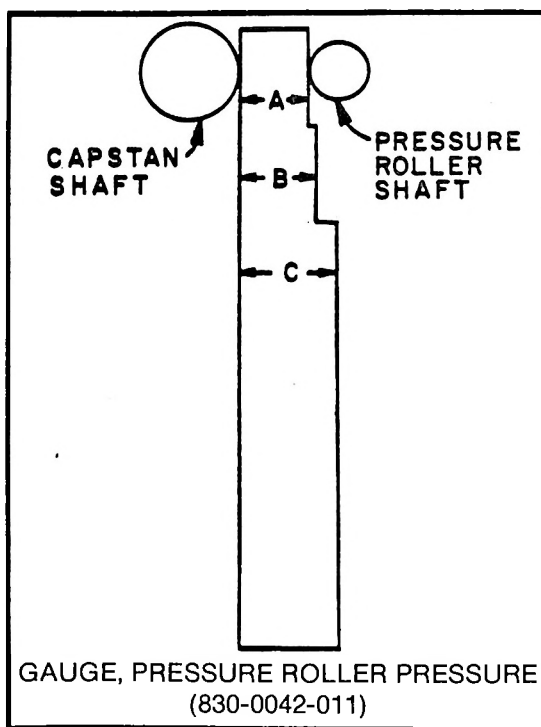

Figure 3-1
3. The 2nd step — (Dimension B) section (see Figure 3-1) should not slip through. If it does, loosen the clevis screw lock nut and rotate the plunger counterclockwise until the 2nd step — (Dimension B) will not slip through. If the 1st step — (Dimension A) end of the gauge will not slip through, the plunger is to be rotated clockwise until it will slip through easily.